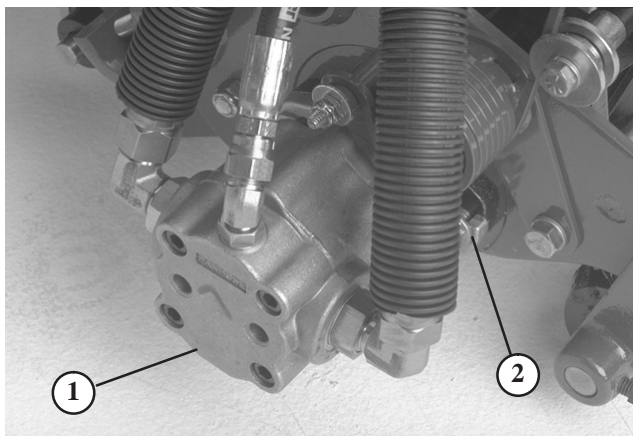

Figure 9
7. Assemble the mounting nuts for the reel drive motor to each cutting unit (Fig. 9). Leave approximately 1/2 in. of threads exposed on each mounting stud.